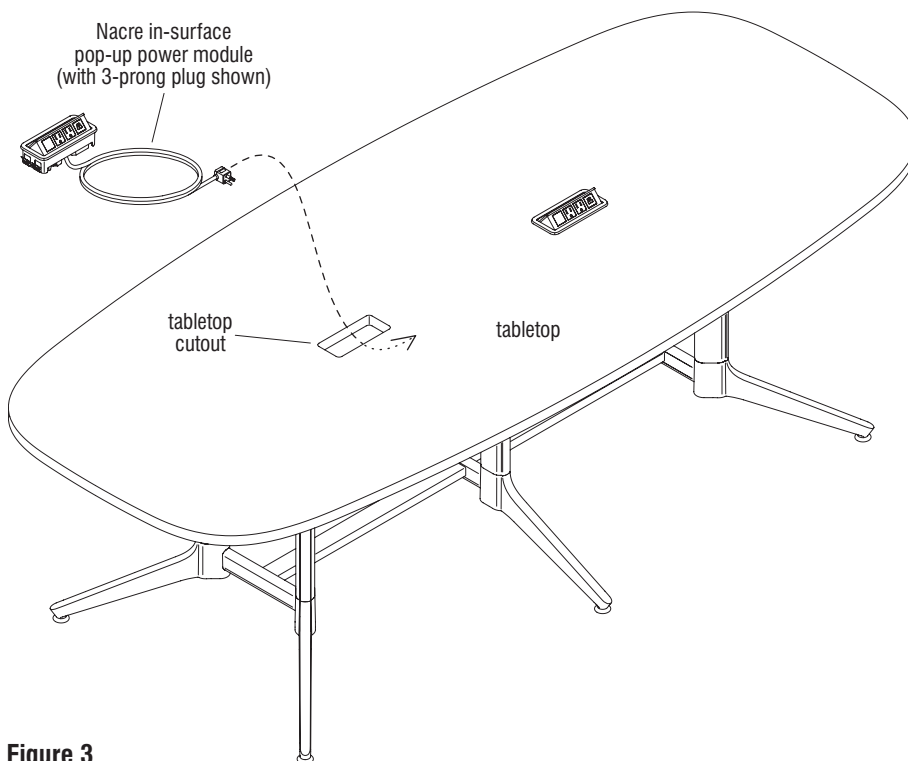

Figure 3
2. With the assembled table in the upright position, orient the Nacre in-surface pop-up power module as shown and route the plug end down through the tabletop cutout. Press the module down firmly into the cutout to secure in place, making sure the two clips on each side of the module catch under the cutout bottom edge of the tabletop (Figure 3 & Detail I).